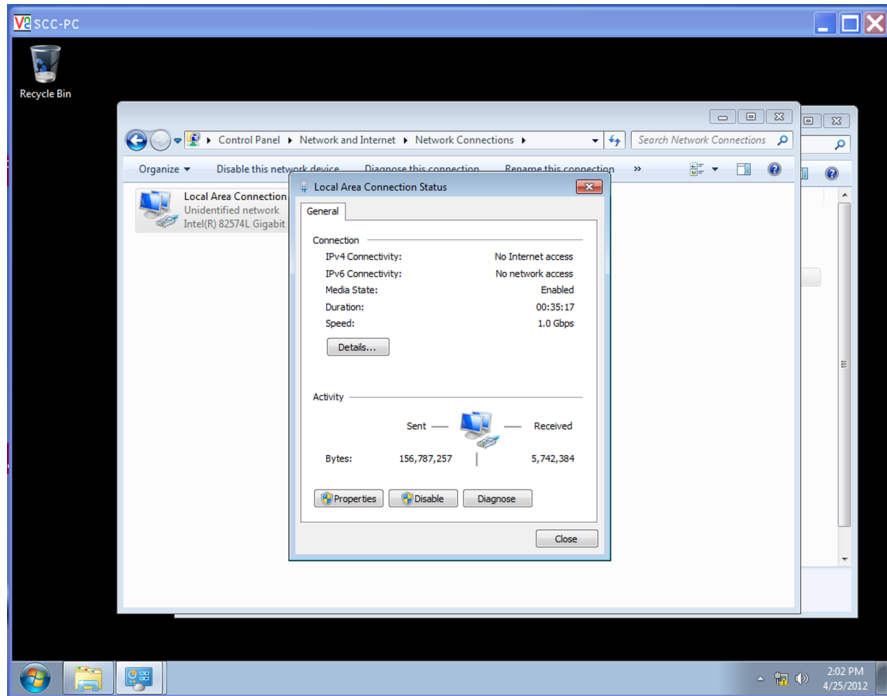

Figure 6 – VNC Viewer Software App, Local Area Connection Status Window
4.4.2 Leaving VNC Viewer running, minimize DVISimOPC. Then in the VNC Viewer window, open Control Panels and double-click the Network Connections icon. Right-click the Local Area Connection icon and choose Properties. You will see the Local Area Connection Status window as illustrated in Figure 6 below.